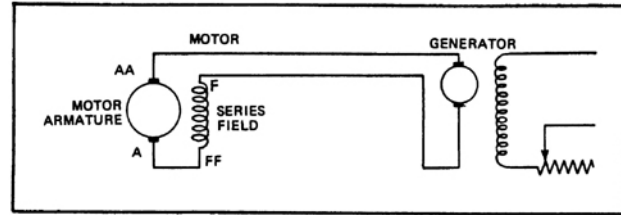

FIG. 6-5. DIAGRAM OF CONNECTIONS TO RUN MOTOR-ALTERNATOR FROM WELDING SET. E-671
2. Use a DC Welding Generator for power to run the motor. Open the breakers supplying power to the motor. Connect the positive lead to the movable side of the EFC (Equipment Fan Contactor) for the Single-Ended Blower or the movable side of the MAC-1 Contactor for the Blower Motor Alternator. Connect the negative lead to the 50CD common wire which can usually be found on Potential Relays PTR-4 or PTR-5 or Alternator Field Relay AFR located in the Auxiliary Group. Figure 6-5 shows an alternate connection diagram for